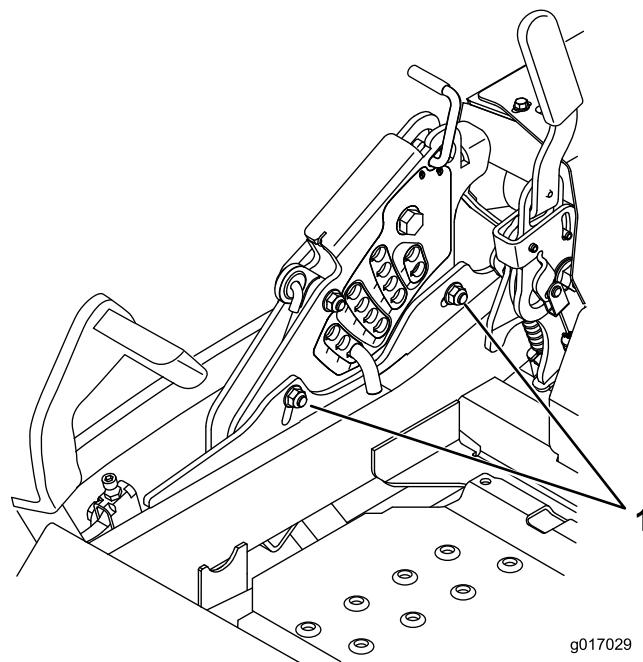

**Figure 95**
11. For mower decks shown in Figure 95, fine-tune the adjustment nut on the front deck lift assembly by turning it (Figure 95).